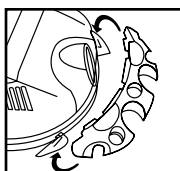

FIGURE 12
13. Press down on center of tool holder until tab latches on bottom of lid. **FIGURE 12.**